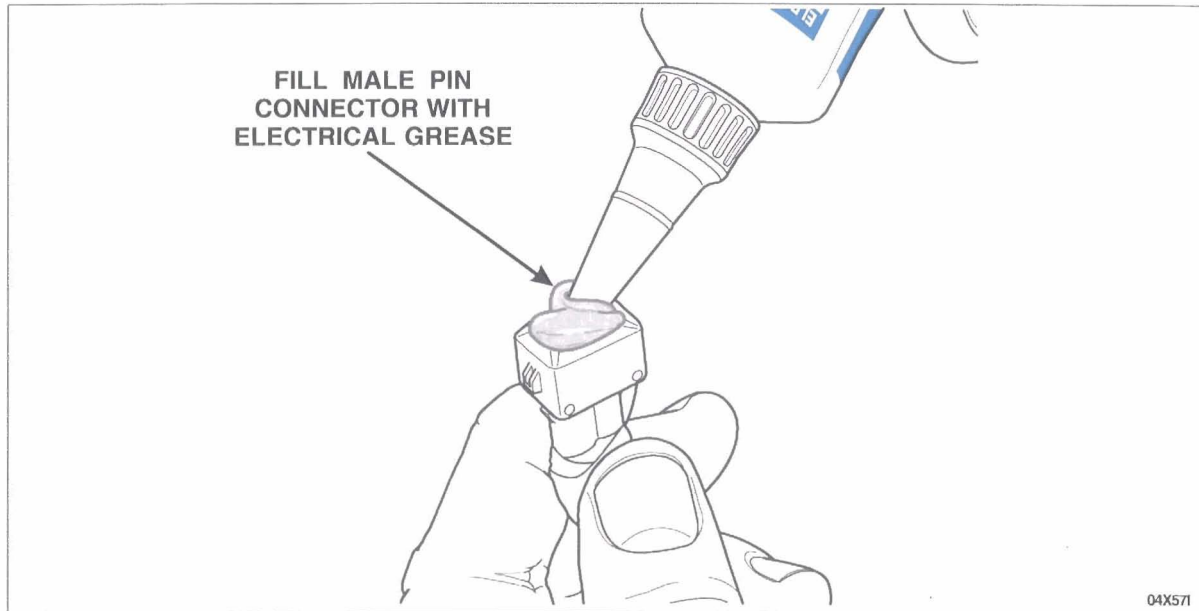

FIGURE 7
- NEW** 6. Before installing the jumper harness, fill the vehicle harness end of the jumper (male pin connector end) with **Motorcraft** Electrical Grease II XG-15-A. See Figure 7.